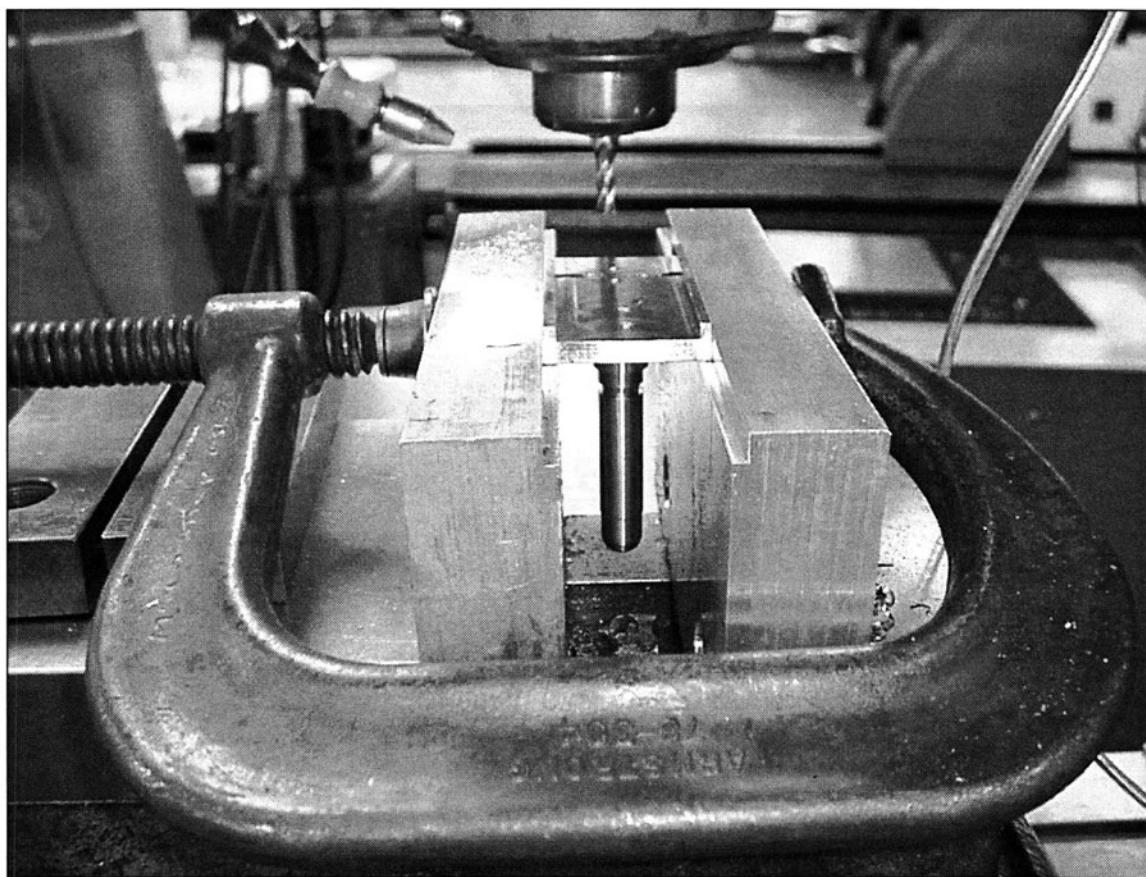

FIGURE 17-1 Tall vise jaws come in handy once in awhile.
8. *Tall commercially available vise jaws. (See Fig. 17-1)*